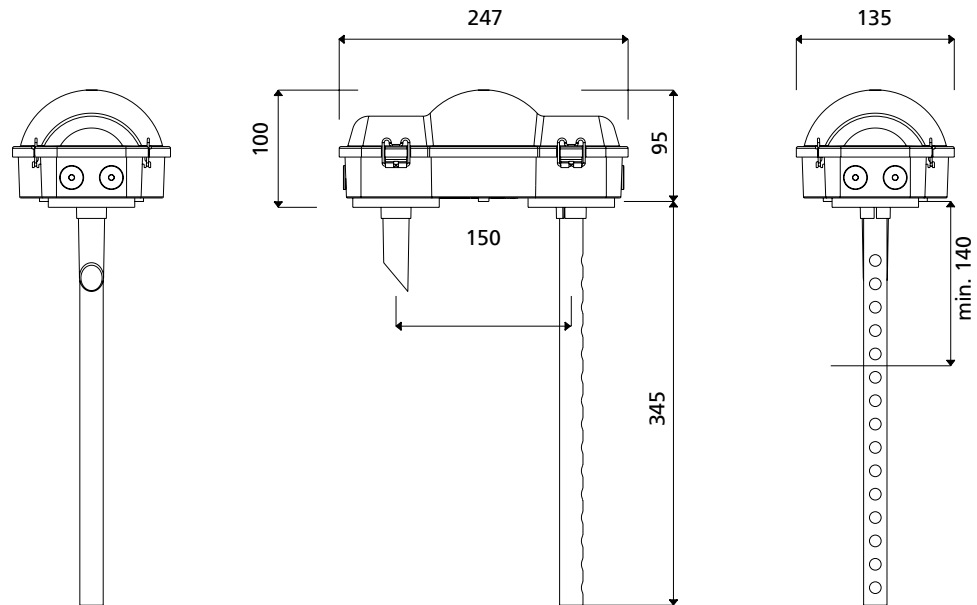

Figure 04
**To ensure reliable smoke detection, at least five of the holes in the tube must be inside the ventilation duct (see Figure 04).**